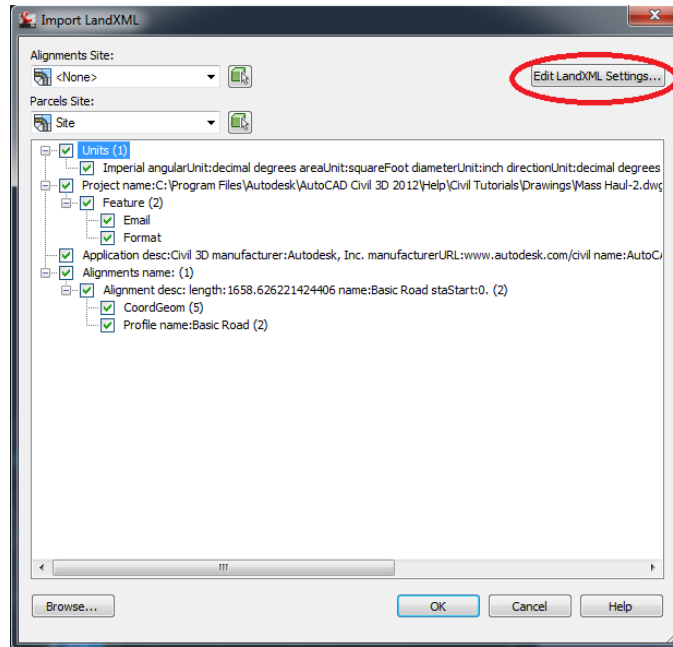

Figure 28: Edit LandXML Settings
5. In the LandXML import dialog, click on “Edit LandXML Settings” (see Figure 28).